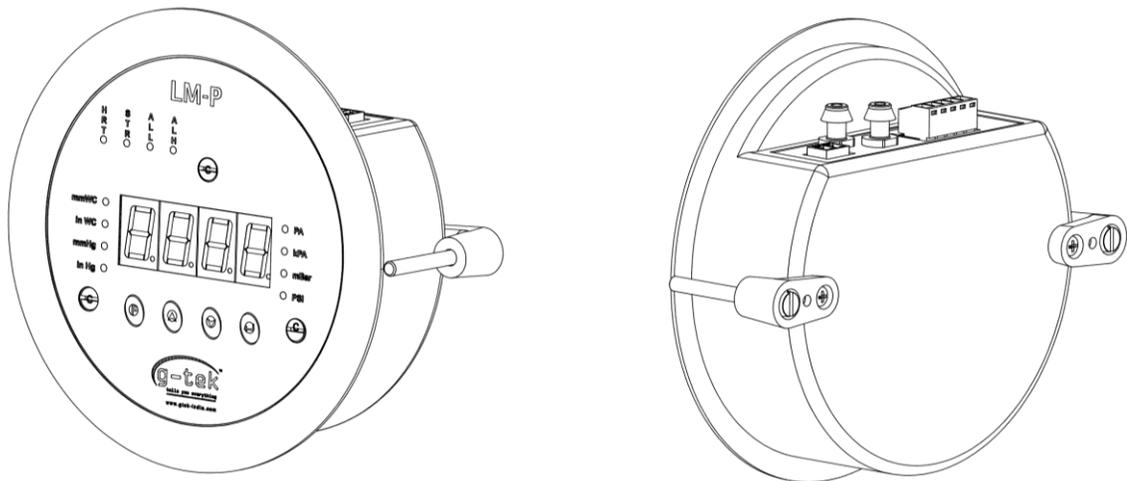

Figure 1 Front and back view of Round plate LM P RS485 data logger (Model No:63xx)
- There are two variants of LM P RS 485 data logger(refer order code) – Square and Round plate as shown in figure 1 and figure 2.